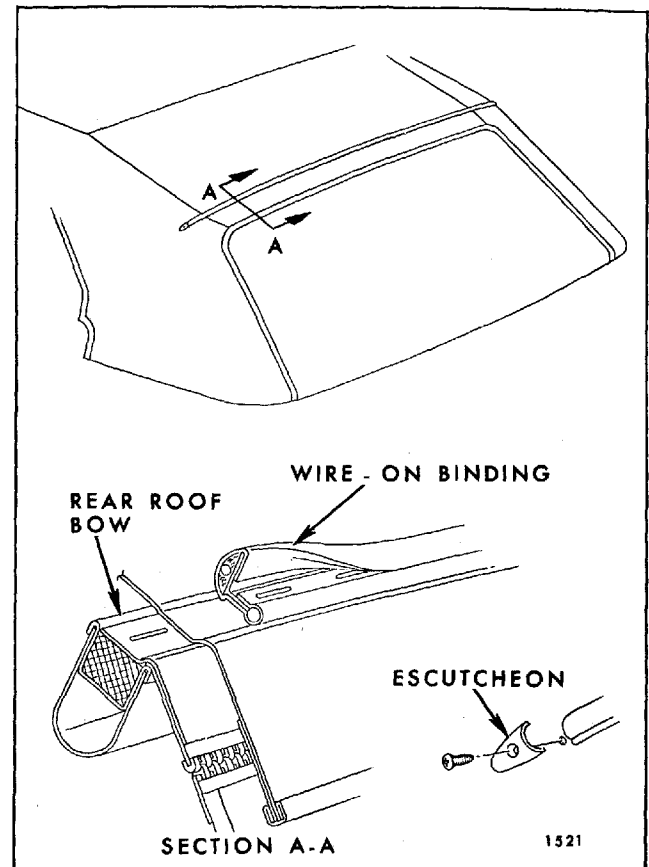

Fig. 6-50—Rear Roof Bow Wire-On Binding
9. Remove screw securing escutcheon clip at each end of wire-on binding on rear bow. Remove wire-on binding from rear bow (Fig. 6-50).